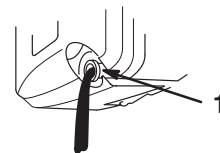

Figure 16
5. Tip the lawn mower onto its **left** side, allowing the oil to drain into the drain pan (Fig. 16).